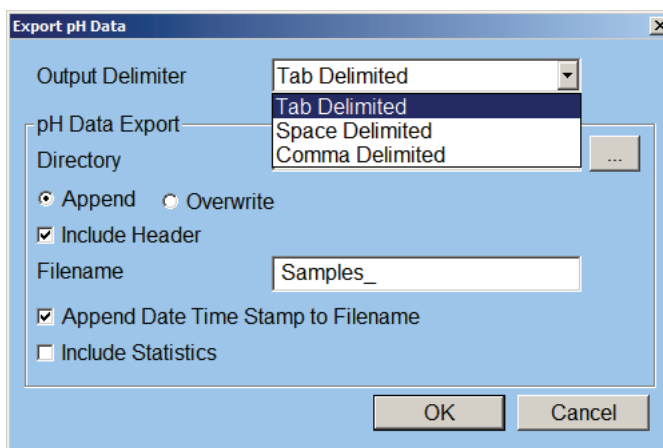

Figure 7.14. Export pH Data dialog box
6. Complete the following Export Data options (refer to Figure 7.14):